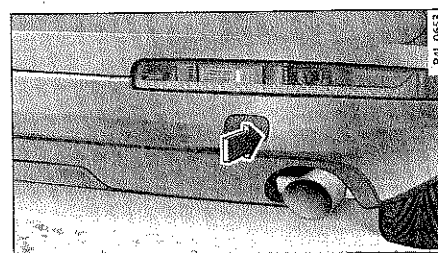

Fig. 322 Rear bumper: Cover
- To release the cover from the bumper, press it in by applying short, sharp pressure to the outer part ⇒ fig. 322.